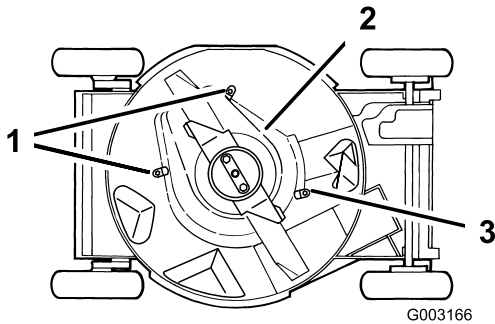

Figure 41
- Loosen the tabs that secure the blade brake clutch shield to the deck by loosening the nuts or the bolts on the tabs (Figure 41). Rotate the tabs 180° to move them out of the way.